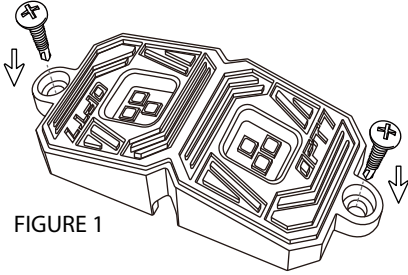

FIGURE 1
- OPTION 1 Use "Self-Drilling Screws" for mounting as shown in Fig. 1